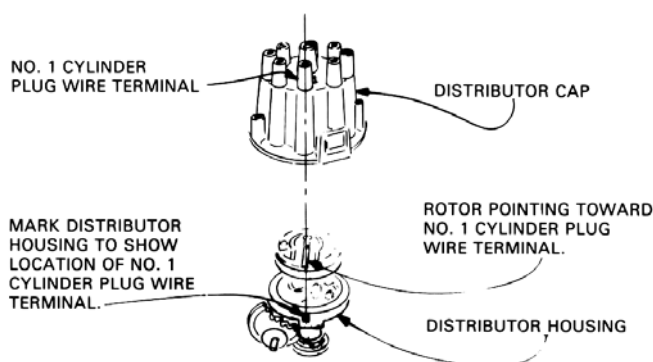

Figure 5
5. See Figure 5 for all details.